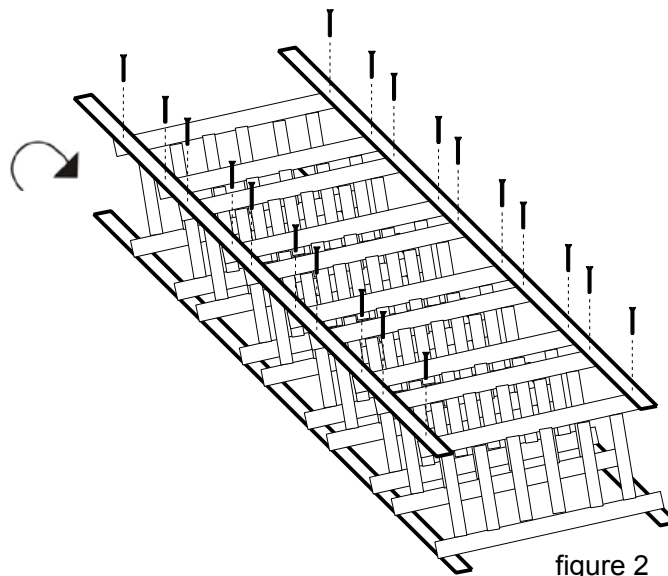

figure 2
3. Flip assembly over and repeat step 2 on the opposite side. (see figure 2)